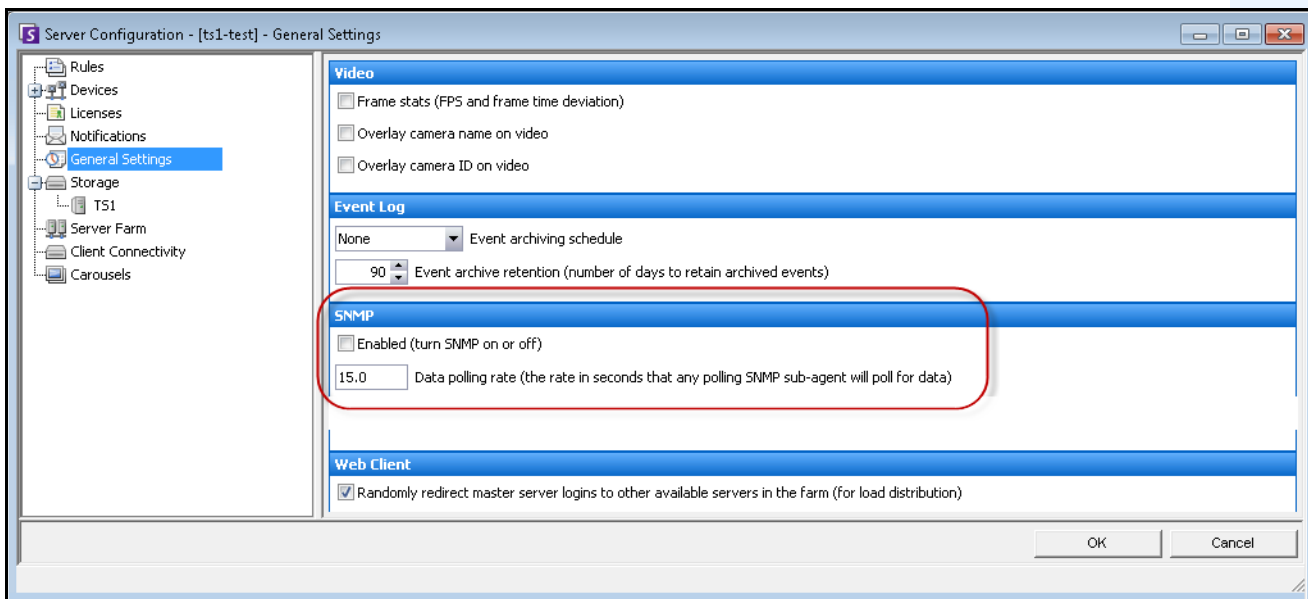

Figure 64. General Settings dialog box featuring SNMP
2. In the left pane, click **General Settings**. The **General Settings** dialog box opens (Figure 64).